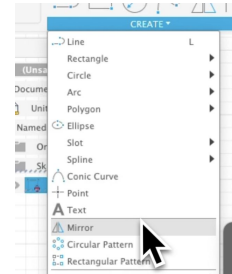

Figure 1.7
- **Mirror:** Allows you to create symmetrical sketches quickly by duplicating geometry. It works by reflecting selected sketch curves across a chosen sketch line, which acts as the “mirror line.” You can apply the ‘**Mirror**’ option by selecting Mirror from the ‘**Create**’ menu. (see Figure 1.7)